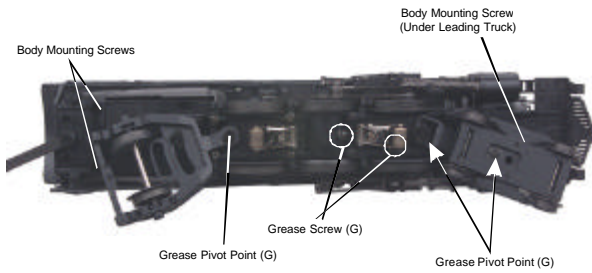

Figure 6: Removing The Body
2. Remove the boiler by removing the body mounting screws shown in Fig. 6
3. Remove the Phillips screw (marked “GREASE”) located at each set of wheels (Fig. 6).
You should also grease the leading and trailing locomotive truck tongues to enhance their ability to slide on the chassis. Follow the grease points shown on Fig. 6.